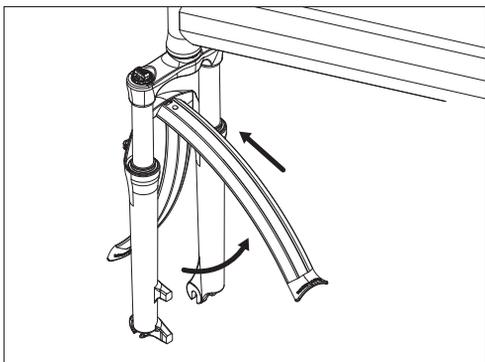

Fig. 27: Rotate and lock the fender in place.
1. Rotate the fender to the up position and push slide it in toward the fork to lock it in place (Fig. 27).